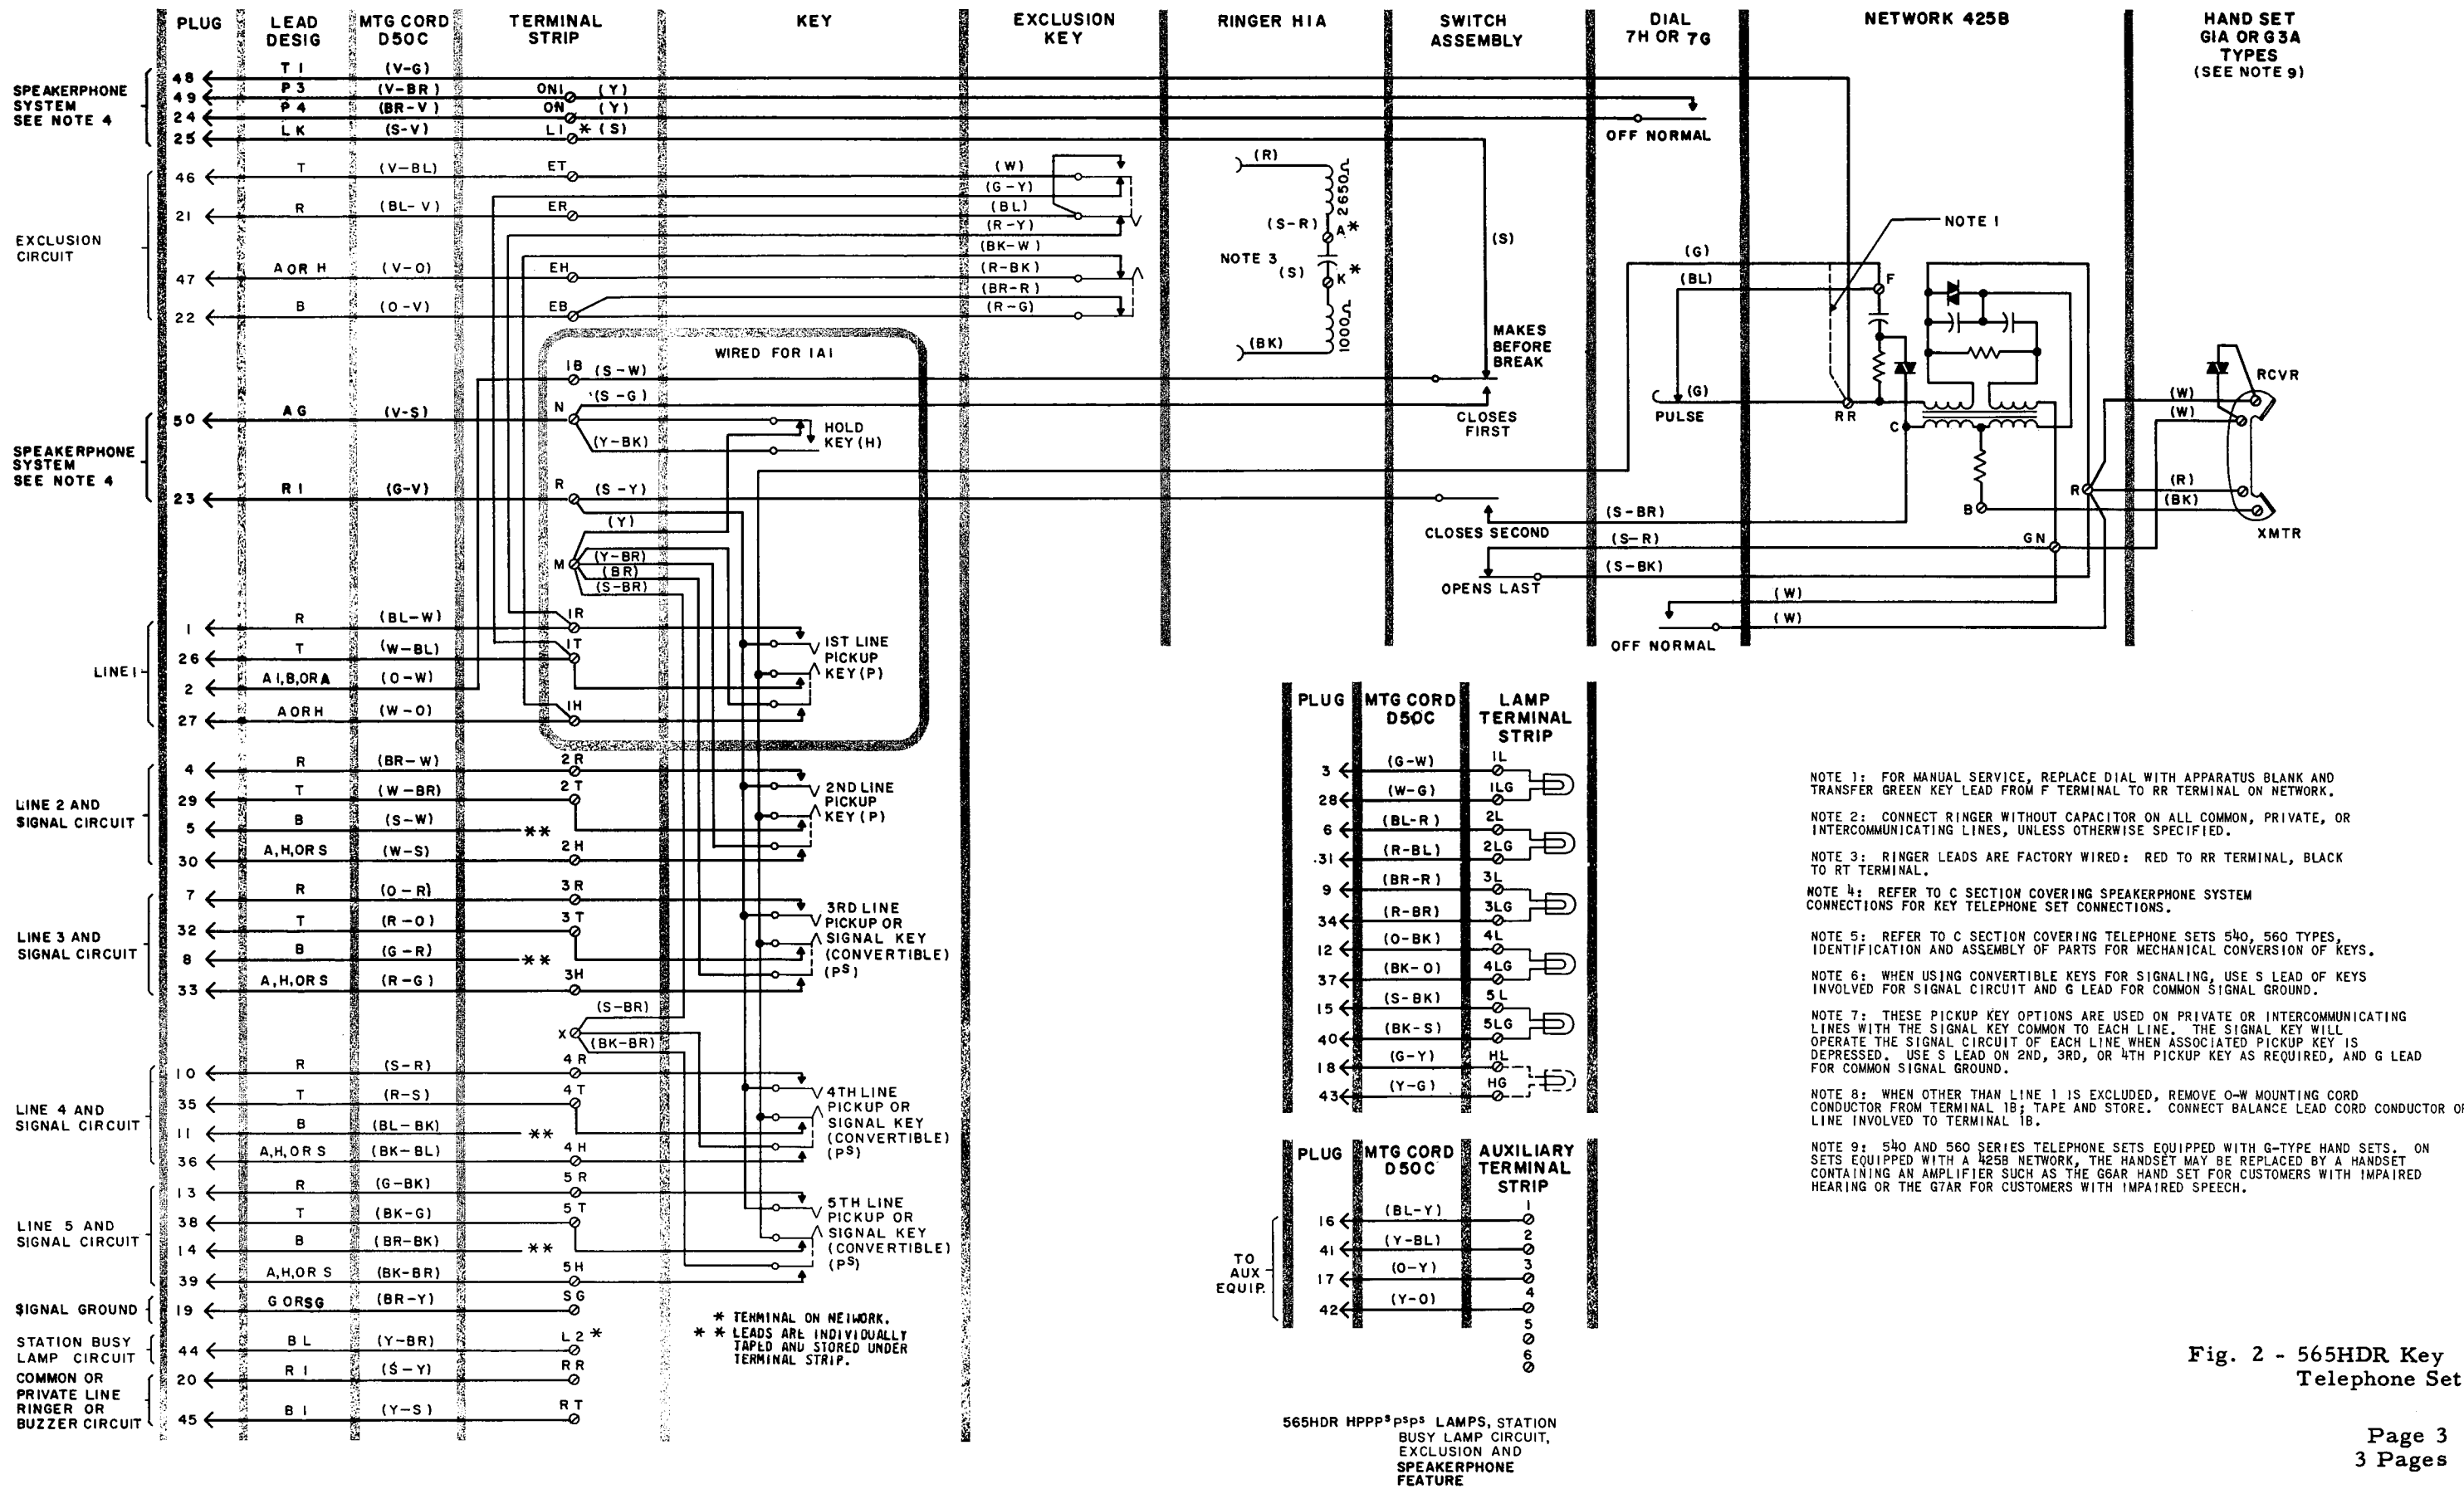

Fig. 2 - 565HDR Key Telephone Set
- Change switch assembly in Fig. 2.
- Renumber the Notes in Fig. 2.